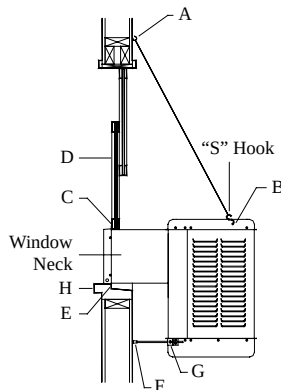

Fig. 2
- **NOTE:** If installing unit without the use of the installation kit, omit these directions and those pertaining to Fig. 2.
- **Screw chain hooks into window facing.** Position the two chain hooks above the neck of the cooler a distance equal to the width of the cooler apart (A-Fig. 2). Hook one hanger chain in each hook and then one "S" hook in the other end of each chain. **NOTE:** Chain hooks supplied with this mounting kit have wood screw threads for wood walls. Concrete, brick walls or concrete blocks require sufficiently strong wing nuts or anchors with mating hooks.
- **Position cooler in window.** Position neck of cooler so that the flange (E-Fig. 2) is snug against edge of sill (H-Fig. 2). With cooler in position, hook the "S" hooks into the holes of the top pan near the back of the cooler (B-Fig. 2).
- **Place window behind retainer strip.** Raise back of cooler so that the window (D-Fig. 2) may be brought down behind top of panel retainer strip (C-Fig. 2).
- **Adjust house legs.** Pull out house legs so that the rubber bumpers rest against house siding (F-Fig. 2). Tighten screw in retaining collar. (G-Fig. 2).